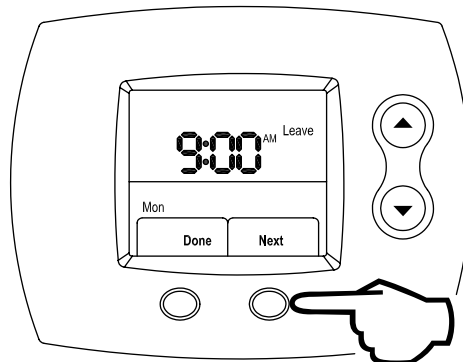

Figure 59
Step 12: Press the **RIGHT** (Next) button to lock in AM / PM. This is shown in Figure 59.